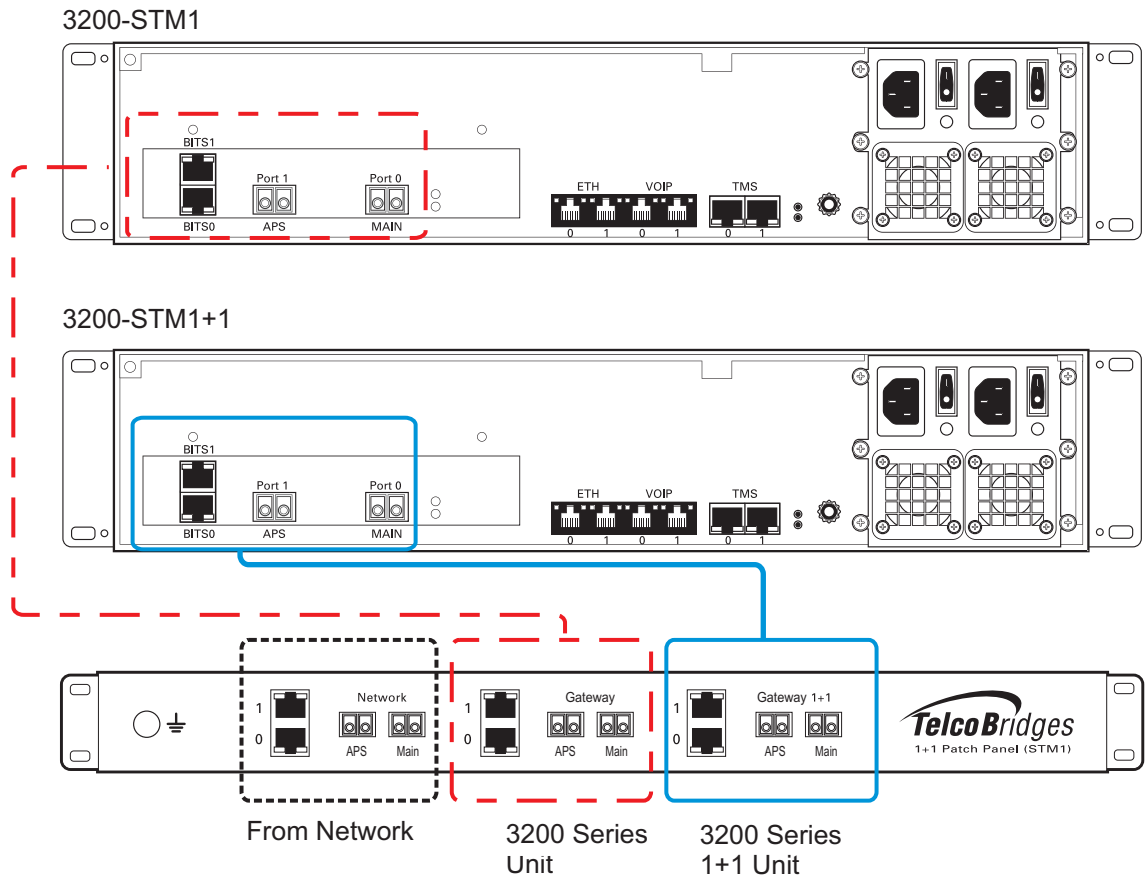

Figure 2.16 3200-STM1 and 3200-STM1 +1 connecting to the STM1 1+1 patch panel
A 3200-STM1 and 3200-STM+1, each with one main and one backup OC3 or STM1 port enables the connection to OC3/STM1 lines. See figure 2.16 on page 40. Refer to table 2.4 on page 39 for a listing of optical interfaces. The default SFP module for OC3/STM1 connection is SMF, intermediate reach, (SFP-OC3-IR1) 1310 nm with LC type connectors.
1. Connect each OC3/STM1 line of the network section of the 1+1 patch panel to the remote equipment. See figure 2.16 on page 40.